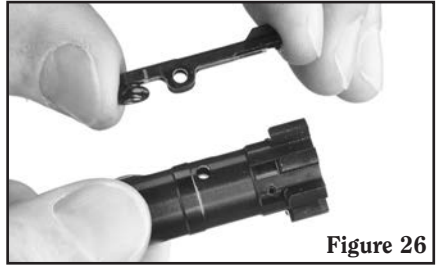

Figure 26
- h. Remove the extractor. (See Figure 26.)